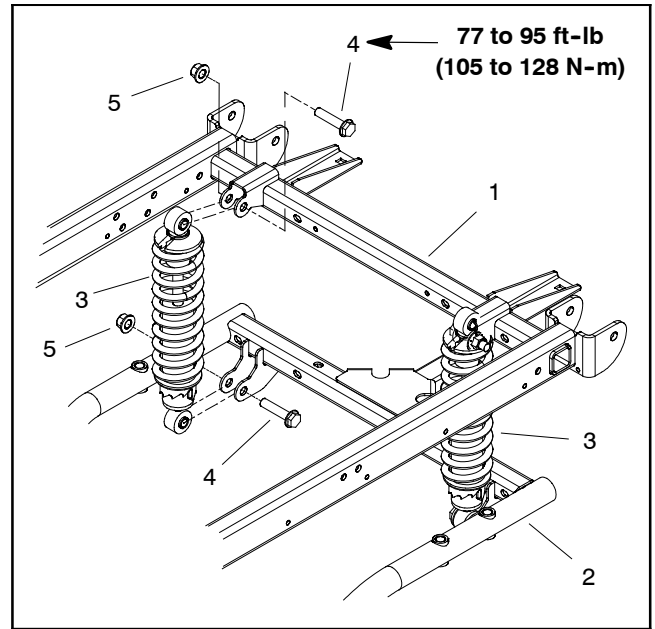

Figure 34
7. If necessary, remove rear shock absorber(s) (Fig. 34):
2. Install rear shock absorber(s) if it was removed (Fig. 34):